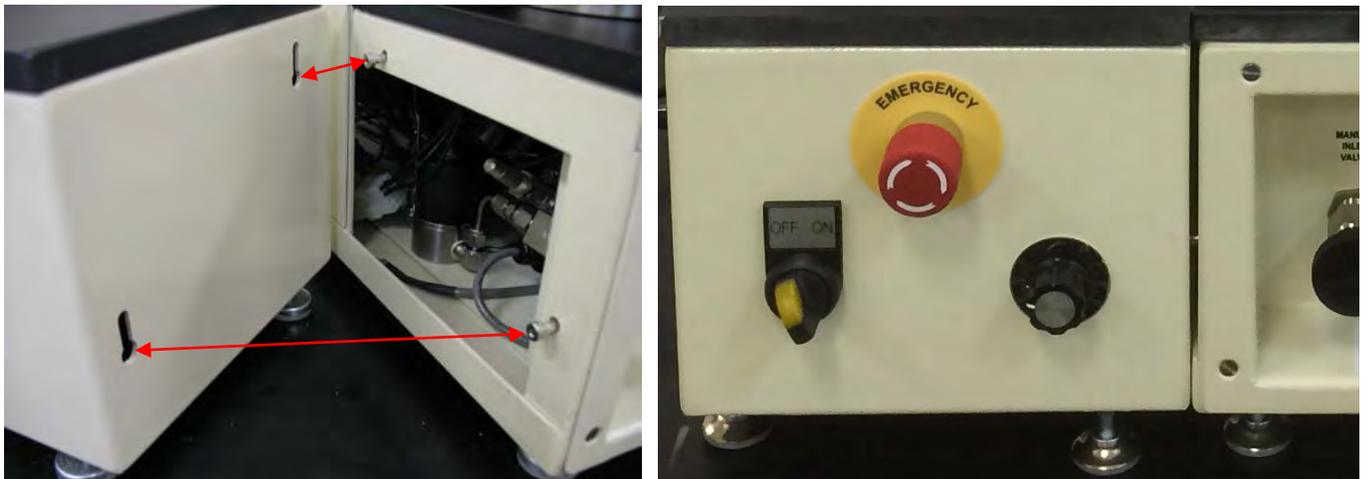

Figure J4 – Reservoir stand installation
3. Install reservoir stand assembly over shoulder screws (figure J4).